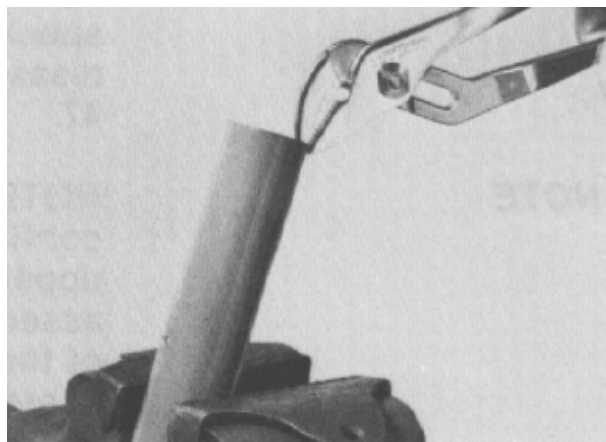

Figure 78
48. Inspect the bushing at the top of the cover & jacket for wear or damage. If bushing replacement is necessary, put the upper cover & jacket in a vise. Use a pliers or punch to straighten the crimped areas on the bushing end of the jacket tube (Fig. 78).